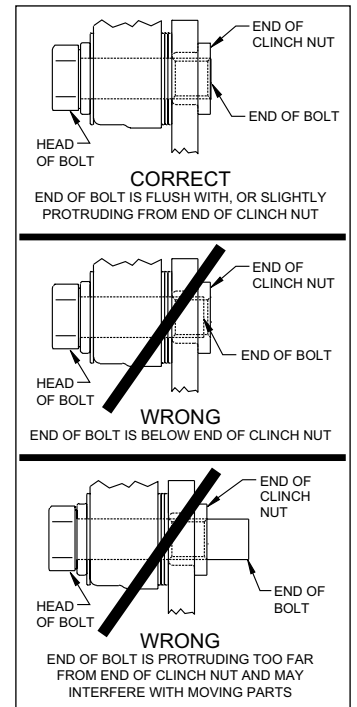

Figure 4. Clinch Nut Engagement Diagram
CAUTION: All mounting bolts must fully engage clinch nuts. Be sure to check that all bolts are either flush or protruding through flanged side of clinch nut after shimming, Figure 4.
(13) onto the caliper mounting bracket (6) using bolts (14) and washers (15), as shown in Figure 1. Initially place two .035" thick shims (16) on each bolt between the caliper and the bracket, Photo 9. Temporarily tighten the mounting bolts and view the rotor (20) through the top opening of the caliper. The rotor should be centered in the caliper, Photo 10. If not, adjust by adding or subtracting shims (16) between the bracket (6) and the caliper (13). Always use the same amount of shims on each of the two mounting bolts. **NOTE:** The end of each bolt must be flush with or slightly protruding from the head of the clinch nut, as shown in Figure 4. If necessary place spare shims (16) between washer (15) and caliper (13) mounting ear to achieve the proper clinch nut engagement. Once the caliper alignment and clinch nut engagement are correct, remove the bolts (14) one at a time, apply red *Loctite*® 271 to bolt threads, and torque to value shown in Figure 1.